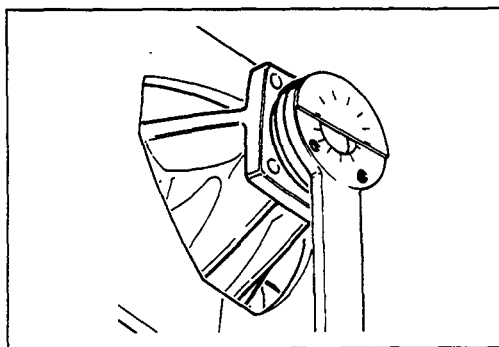

Figure 32
- (e) Cut out the protractor on page and park the companion flange retaining spanner in 10 degree steps as shown in Fig. 32.
2. Cut the protractor out and attach it to the flange retaining spanner as shown on page 25 Fig. 32 of the Service Manual.